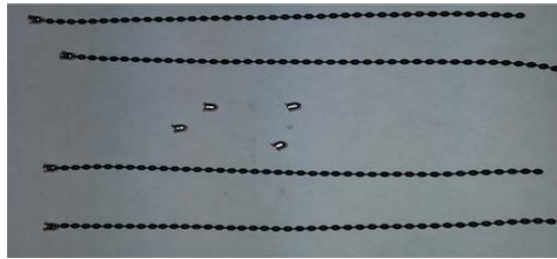

Fig 2
- 2) BALL CHAIN (4). See Fig 2.
- 3) PUSH MOUNT SLEEVE (10), (4 attached to Ball Chains, and 6 additional included). See Fig 2